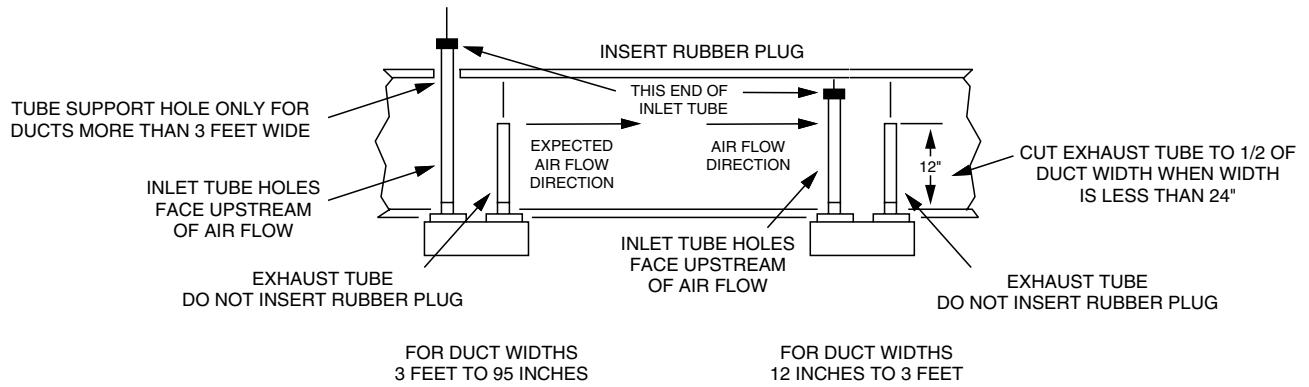

Figure 13. Inlet Tube Orientation (Mounting Position 2 – See Figure 18)
3. If the duct is more than 3 feet (0.9 m) wide, then punch a 1-inch (25.4 mm) hole in the duct wall directly opposite the upstream 1 1/4 inch (31.75 mm) hole. See Figure 13. This hole is used to support the inlet tube.
- Inlet tubes should be selected and cut to length as specified in Table 3. After trimming the inlet tube opposite the slot, tap rubber plug (supplied) into the trimmed end. See Figure 13.
Inlet Tube Installation (See Figures 13 and 14)
Exhaust Tube Installation (See Figures 13 and 14)